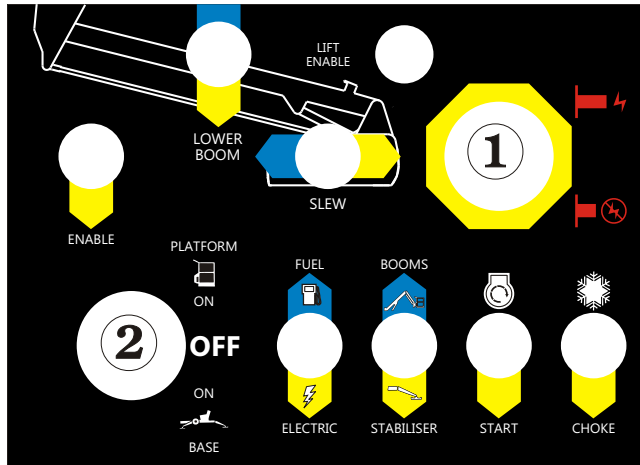

Figure 11.5 - Ground Control Box, Electric Controls
1. The **Emergency Stop** switch ① must be (ON) (see Figure 11.5).
2. The **Platform/Ground Selector** switch ② (see Figure 11.5) must be set to PLATFORM.